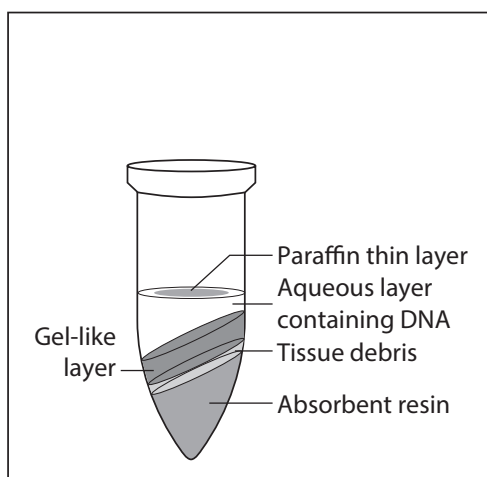

Figure 1
- e. Use a micropipette to collect the aqueous layer while avoiding the paraffin thin layer formed at the top. (Figure 1 and 2) You will see a gel-like layer above the absorbent resin. Collect the aqueous layer on top of this gel-like layer.
- g. Use a micropipette to collect the aqueous layer while avoiding the paraffin thin layer formed at the top (Section VI.1, Figure 1 and 2). You will see a gel-like layer above the absorbent resin. Collect the aqueous layer on top of this gel-like layer.